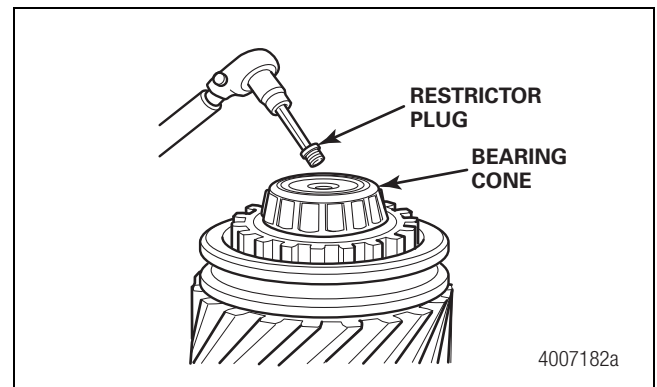

Figure 6.6
8. Apply Loctite® 592 threadlocker to the restrictor plug and install it into the end of the bearing cone. Tighten the plug to 15 lb-ft (20 N•m). Figure 6.6.